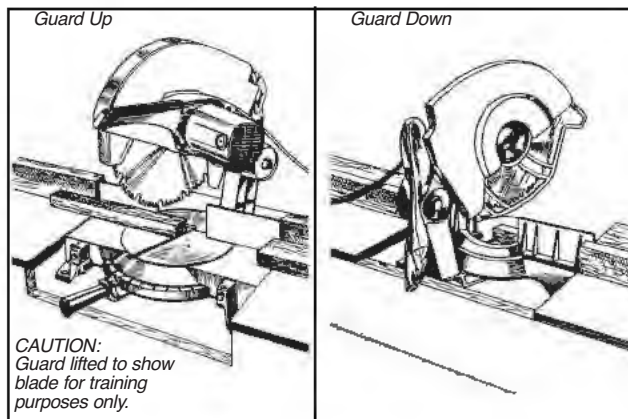

Figure 22 — Some large chop saws may require additional precautions
- With some large chop saws (Figure 22), additional precautions are required because of the tremendous torque the saws can develop.